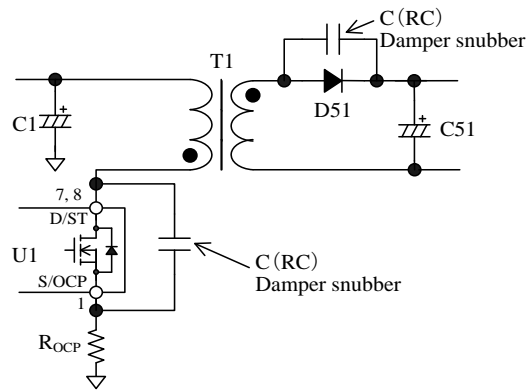

Figure 10-15 Damper Snubber
In addition, if a C (RC) damper snubber of Figure 10-15 is used, reduce the capacitor value of damper snubber.